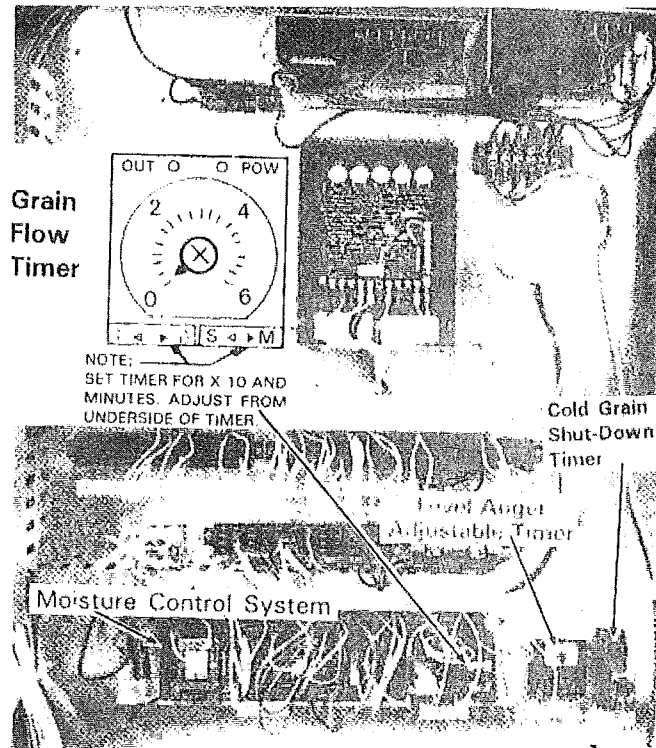

Figure 24
There is an adjustable 0 to 3 minute delay in the level auger circuit. See Figure 24. It is activated when the level auger switch is in the AUTOMATIC position and the level auger light is signaling for grain.
The Grain Flow Timer, Figure 24, will shut the dryer down if there is an insufficient grain supply to fill the hopper. When the level auger starts, the Grain Flow Timer will be activated. When the timer counts down to zero, the dryer will shut down and the Grain Flow light will come on.
1. Set the adjustable level auger delay, Figure 24, for time desired (0 to 3 minutes).
3. Check the time that it takes the level auger to refill the wet hopper (6) times. The length of time that the level auger light is ON plus the 0 to 3 minute delay is the refill time.
4. Average the 6 refill times and reset the Grain Flow Timer, Figure 24, to run 5 minutes longer. For example, if it takes the level auger an average of 5 minutes to refill the dryer, set the Grain Flow Timer to run 10 minutes.
the time control knob to 3 (3x10) or 30 minutes for a starting point, see Figure 24.